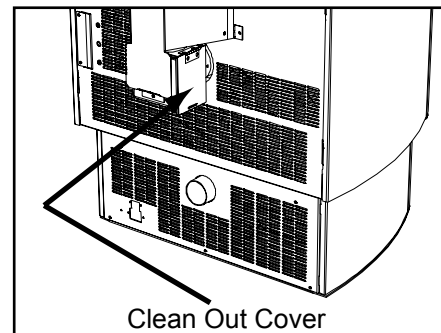

Figure 31.1
- b. Open the clean out cover. **See Figure 31.1.**